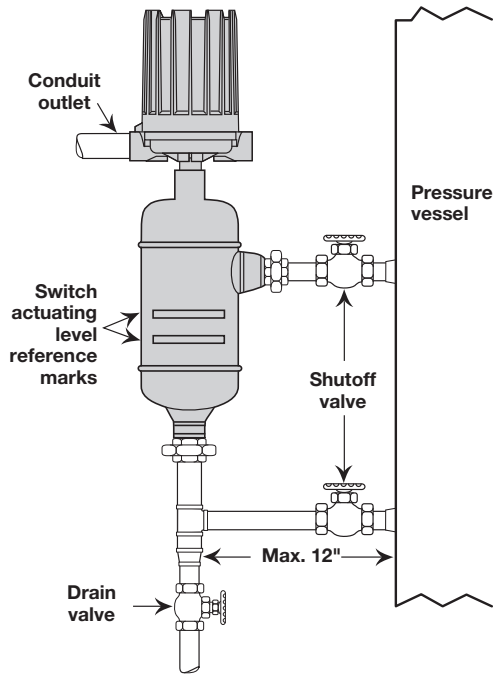

Figure 3
Figure 3 shows a typical piping installation of a Magnetrol Series 3 control to a pressure vessel. Level decals on control identify the actuation levels for the bottom switch mechanism of a unit with three switches at minimum specific gravity. To find the actuation levels for a unit with one switch at different minimum specific gravities, refer to the charts in *Actuation Levels, Steam Service Ratings and Specific Gravities, Section 5.2.5*, on page 27.
- 5b. Close shut-off valves (if so equipped) to isolate control from tank. Drain off liquid in float chamber. Refer to **Figure 3** on page 5.